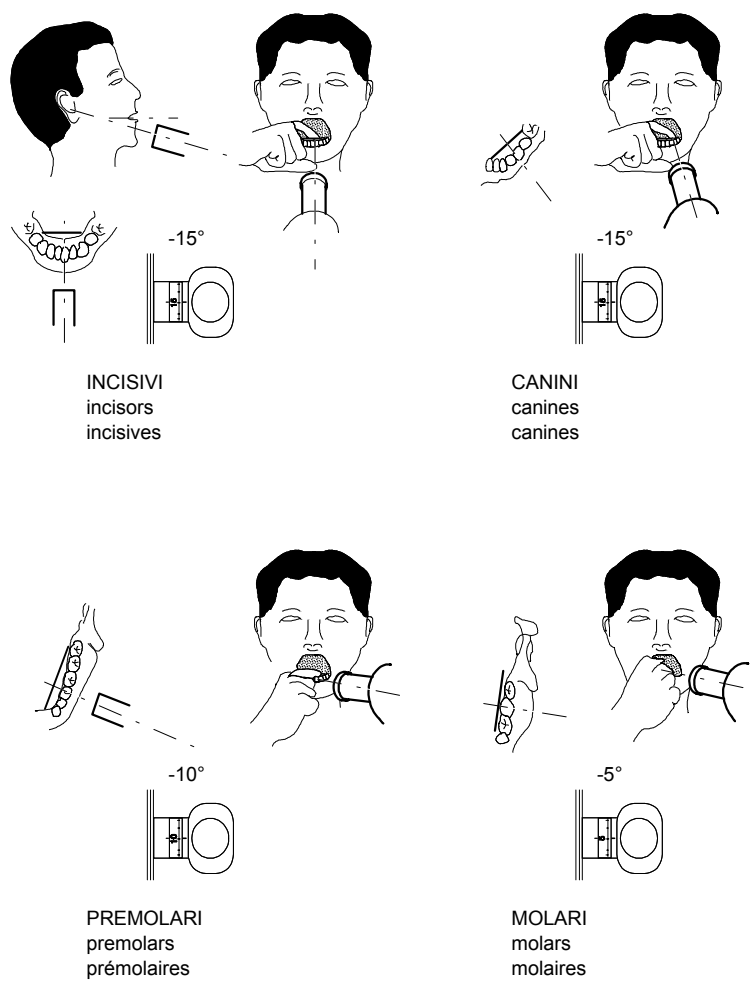
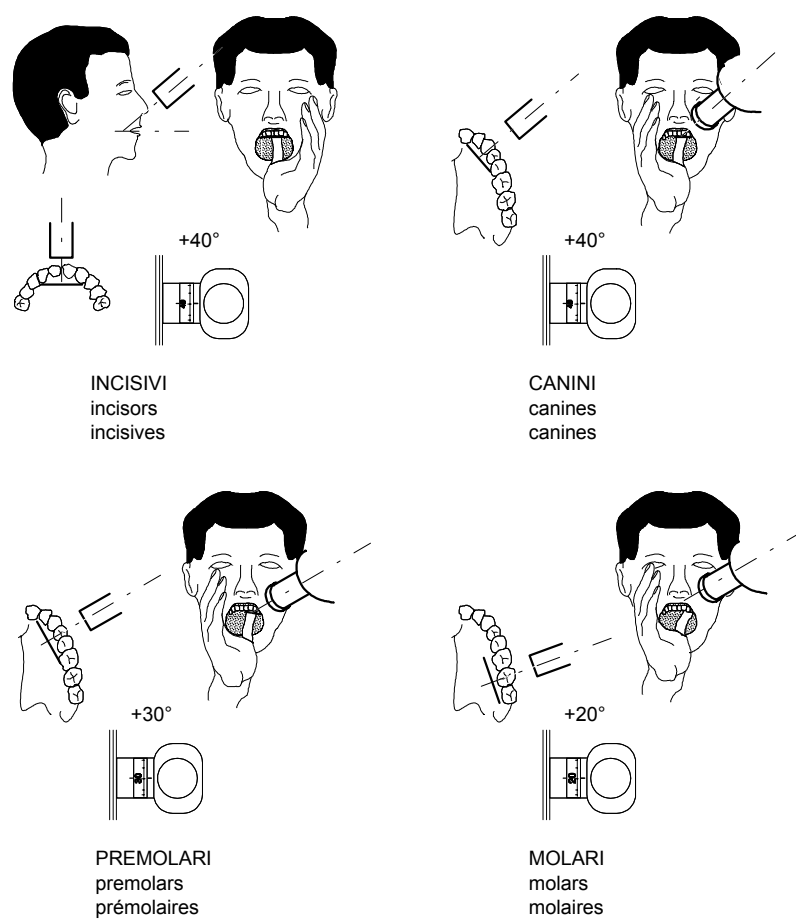
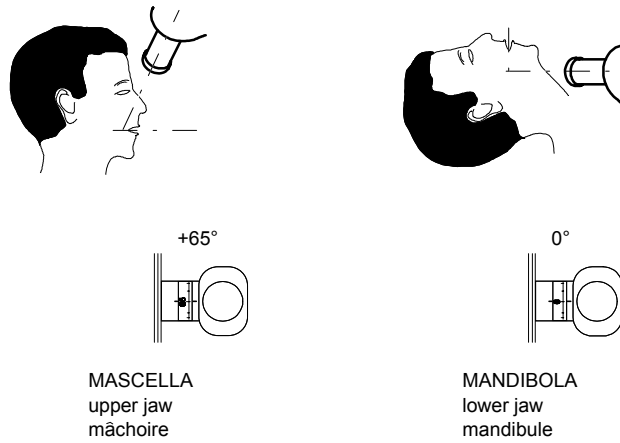
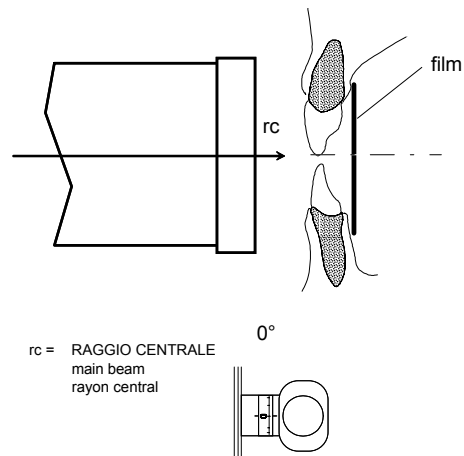

Figure 6
Figure 7
Figure 8
Figure 9
- a) Press the "film selection" key (13) to bring the choice on "custom" (17) (if not already selected); press at the same time keys (13) and (7) to enter editing mode of the custom exposure times. The editing condition is shown by the custom LED flashing (17); the time for the selected tooth/size combination is displayed on the display in flashing mode; the anode current LED in use is flashing.
- b) Pressing the "size selection" key (3) or "tooth selection" key (7) will show the relevant exposure time (blinking) for the combination; time is modified using "increase" (2) or "decrease" keys (1).
- c) Pressing at the same time the "film selection" key (13) and "increase" (2) or "decrease" key (1) changes the anodic current to be used for that size-tooth combination, as shown by the anodic current blinking.
- a) Set the tubehead with an angle suitable for the exposure and positioning requested (see Figure 6, Figure 7, Figure 8, Figure 9).